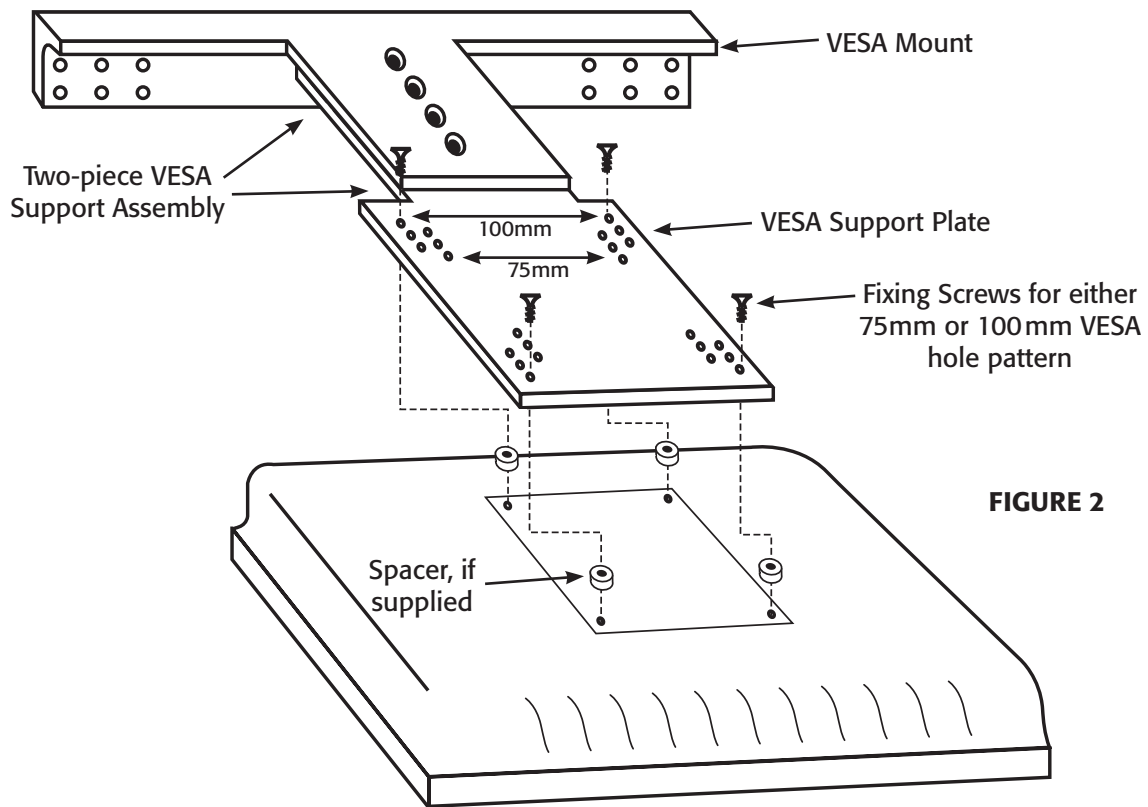

FIGURE 2
4. If the LCD Display has not been pre-mounted to the **VESA Support Assembly**, please refer to **Fig. 2** for mounting instructions, then proceed as follows: Attach the combined **L-Bracket/VESA Support Assembly** to the top front of the **Balance Plate** with the (4) **3/8-16 x 3/4" button head screws** supplied.
- 8b. If necessary, vertical placement of the image on the mirror may be modified by adjusting the fore and aft position of the **VESA Support Assembly** (refer to **Fig. 2**). Note: Extending the **VESA Support Plate** forward will raise the image on the Mirror; moving it rearward will move the image down.
If the display has not been pre-mounted to the **VESA Support Assembly**, proceed with mounting, per **Fig. 2** as follows.
2. For non-Listec displays, place the four (4) **1/4" Spacers** over the four VESA mounting holes located on the back center of the panel.
3. Position the Two-Piece **VESA Support Assembly** over the **Spacers**, if supplied; or directly over the four fixing holes, as shown in **Fig. 2**.